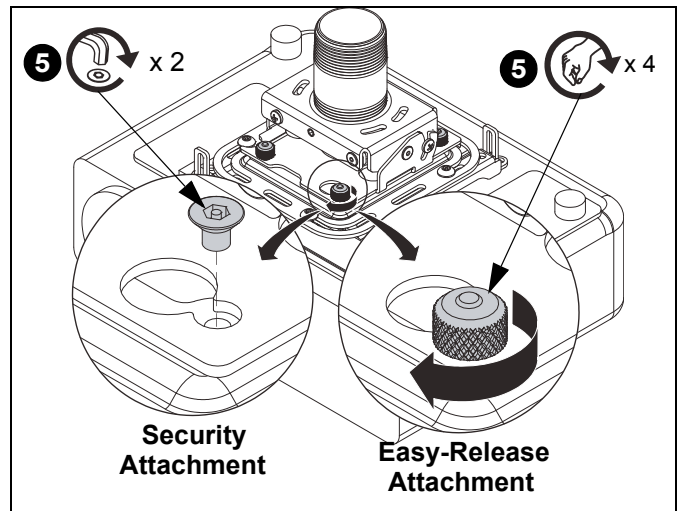

Figure 18
5. Secure projector to mount (See Figure 18) by either: